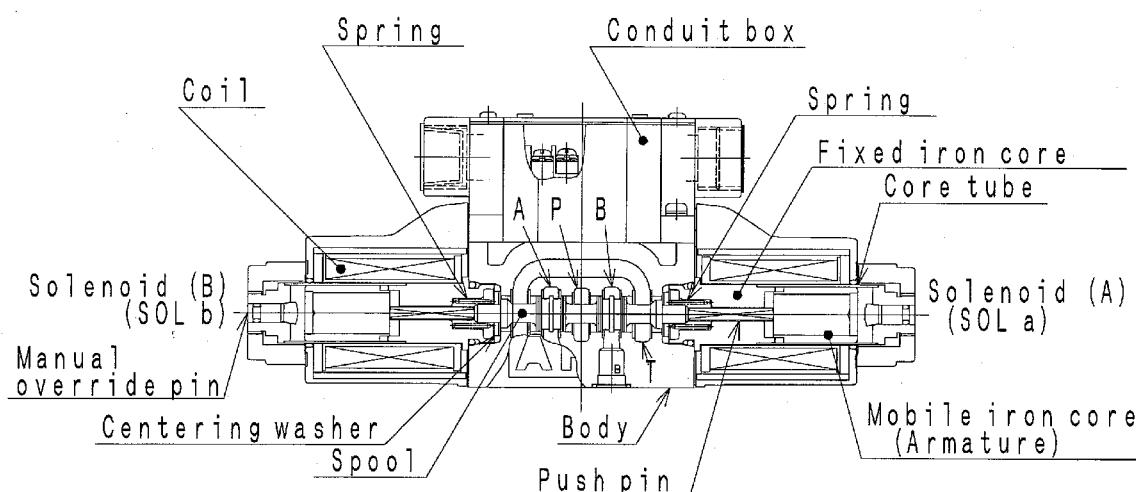

FIGURE 1 Structure of DG4V-3-*C (except for 8C)
Figure 1 shows the structure of the spring center type (DG4V-3-*C) solenoid operated directional control valve.
- (1) This directional valve model has 3 switching positions - solenoid de-energized, solenoid (A) energized, and solenoid (B) energized. (This type is referred to as a 3-position directional valve.)
- (2) When both solenoids are de-energized, the spool is maintained in the neutral position by the force of the springs at both ends of the spool. (Fig. 1 shows the spool in the neutral position.) There are various spool types available which can be selected according to the desired circuit configuration.
- (3) When solenoid (A) is energized, the right armature is attracted to the fixed iron core. This movement is conveyed to the spool via the push pin and moves the spool to the left while compressing the left side spring. This action creates circuit, $P \rightarrow A$, $B \rightarrow T$ (in the case of a "2C" spool).
- (4) When solenoid (A) is de-energized, force of the left side spring compressed by the spool, will act to return the spool to the neutral position.
- (5) When solenoid (B) is energized, the spool will move in the direction opposite (ie. right direction) to that in (3) above to form circuit configuration, $P \rightarrow B$, $A \rightarrow T$ (in the case of a "2C" spool).
- (6) When solenoid (B) is de-energized, the spool will return to the neutral position, similar to (4) above.